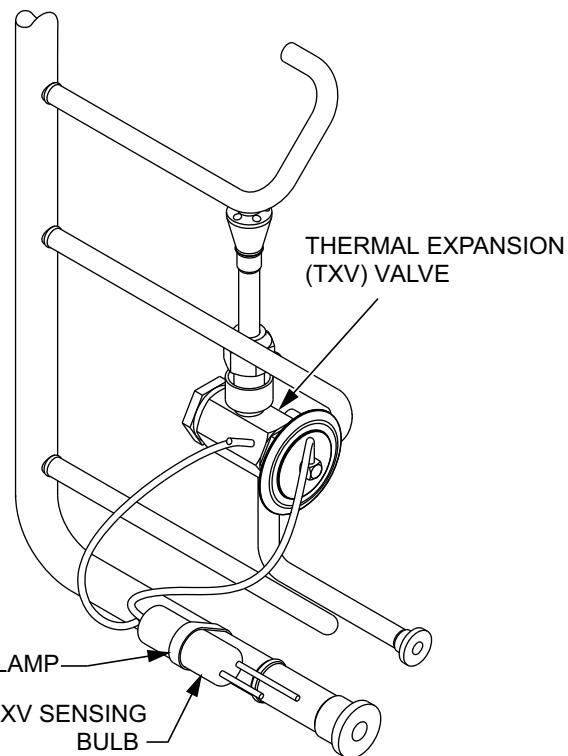

Fig. 22 — TXV Valve and Sensing Bulb Location
- Attach TXV bulb in the same location where the original (in the sensing bulb indent) was when it was removed, using the supplied bulb clamps. See Fig. 22.